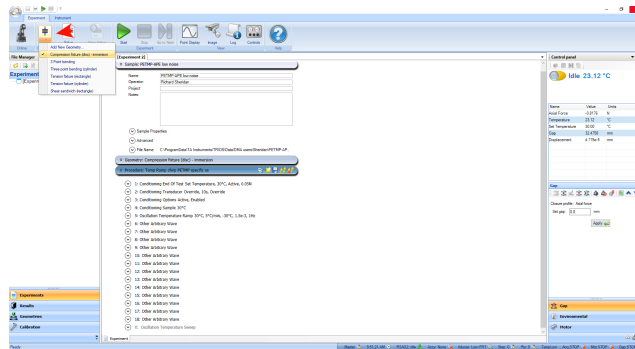

Figure 3: Define the geometry using the **Geometry** tab (red arrow)
- (2.8) In **TRIOS** report the tool in the **geometry** tab. For compression, select **Compression fixture (disc)-immersion** Report the diameter of the plates and the **loading gap** (fig. 3, red arrow)